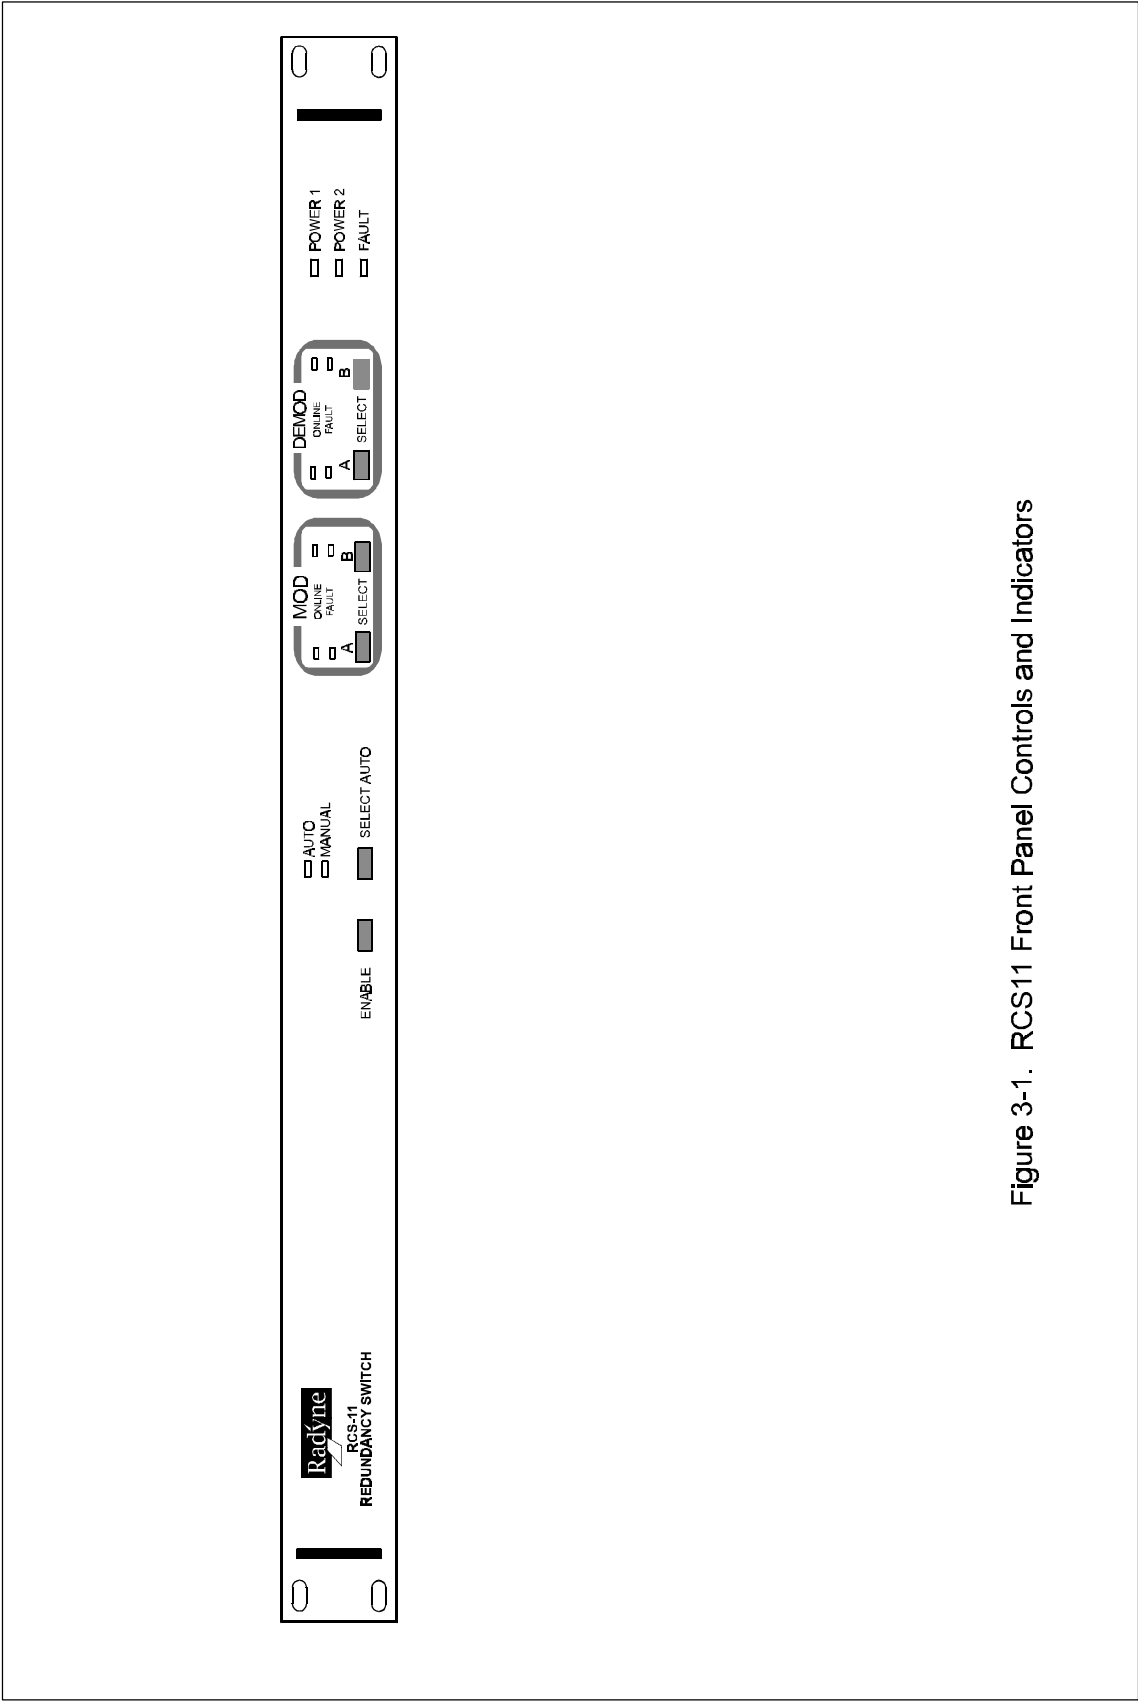

Figure 3-1. RCS11 Front Panel Controls and Indicators
6. Proceed to Section 3 and Refer to Figure 3-1 and Table 3-1 to become familiar with the RCS11 controls and indicators.
The RCS11 is designed to require minimal operator intervention and control during normal operation. After initial setup, the unit should operate in a relatively 'transparent' manner, providing trouble-free backup of the online modems. The scope of this section, therefore, is limited to instruction on the various modes of control available to the operator. Refer to Figure 3-1 for the RCS11 Front Panel Controls and Indicators and Table 3-1 for a description of the Controls and Indicators.
3.1.1 Configuring the RCS11 (Refer to Figure 3-1)